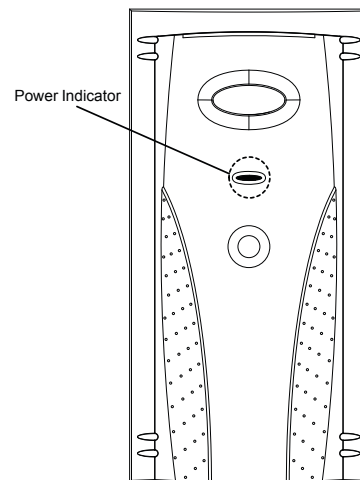

Fig. 10 - Power Indicator
- d. The power indicator light above the Air Purifier power switch should illuminate (see Fig. 10).
The air purifier is equipped with a power indicator light located on the door (see Fig. 10). This power indicator light will illuminate when the air purifier door is installed, the power switch is in the ON position, AND the furnace blower is running. If the power indicator light is not illuminated, follow the troubleshooting steps below.